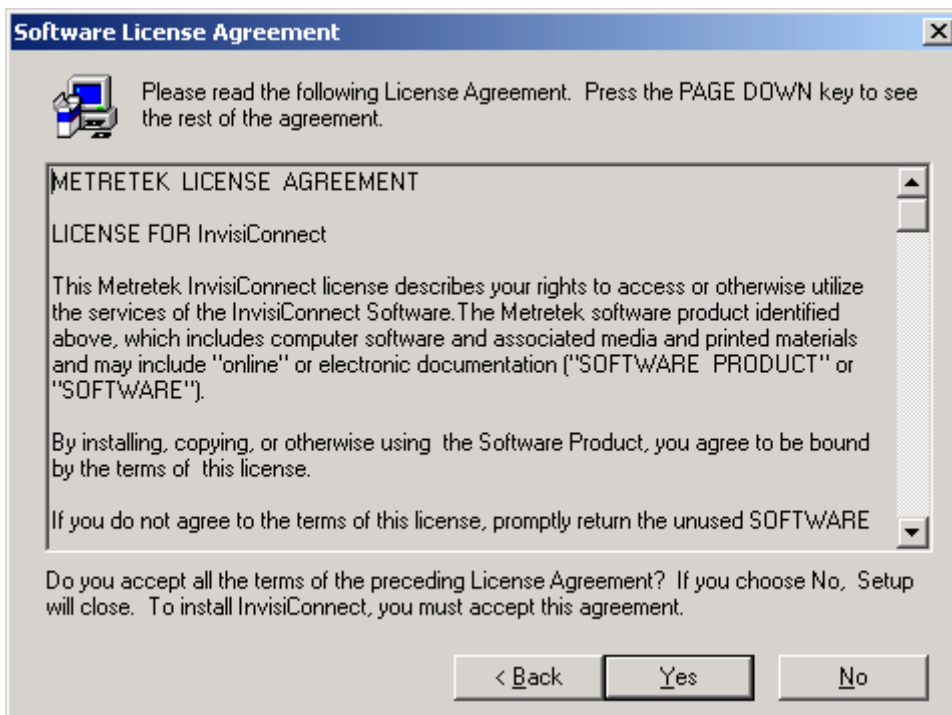

Figure 2 – InvisiConnect™ Installation – Software License Agreement
3. Figure 2. Software License Agreement – Read before continuing then click <Yes> to agree and continue the installation. Clicking <No> will terminate the installation process.